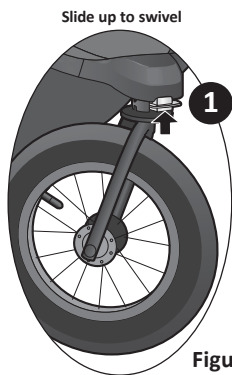

Figure 4.15
- 1 Push tab up until it “clicks” allowing wheel to swivel around. **Figure 4.15**